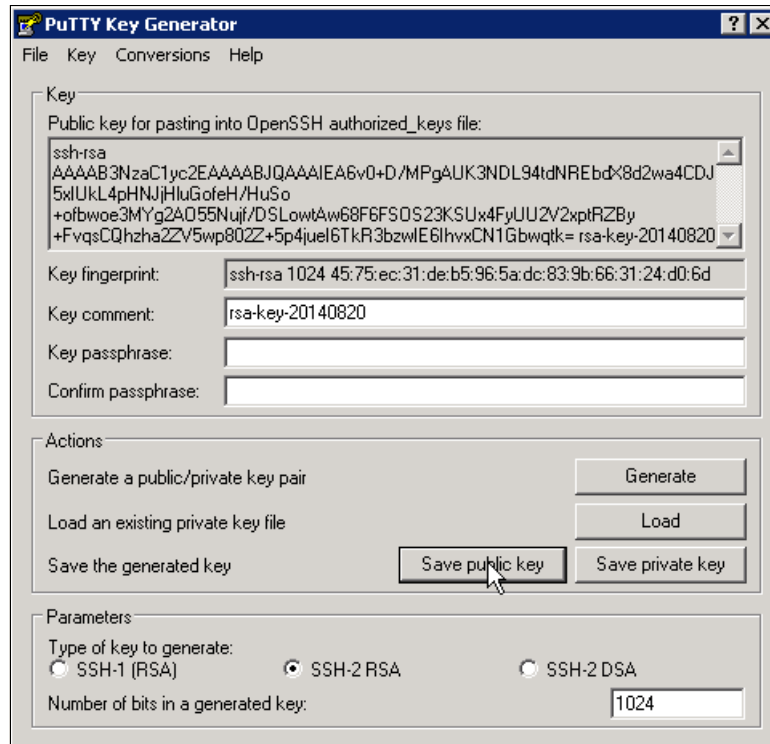

Figure 8-3 Saving public key
3. After the keys are generated, save them for later use. Click **Save public key** (Figure 8-3).